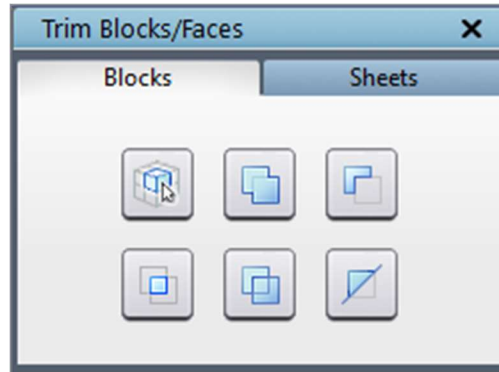

Figure 5.81: Trim dialog box
**Trim** button located in the **Tools** section. Clicking on the **Trim** button will open a dialog box, as shown in Figure 5.81. Users can select the trimming tools for blocks or faces by selecting one of the tabs in the **Trim** dialog box. Select **Blocks** for trimming blocks and **Faces** for trimming sheets. By default, **Blocks** have been selected for trimming.